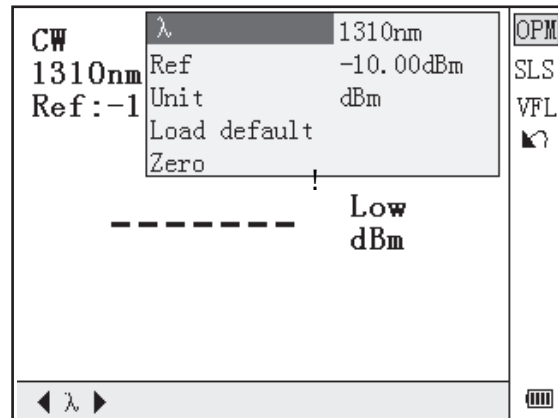

Figure 4-11. OPM Measurement Setting
2. Use ◀ and ▶ to toggle between calibrated wavelengths. Press Enter to enter OPM measurement setting interface (Figure 4-11)